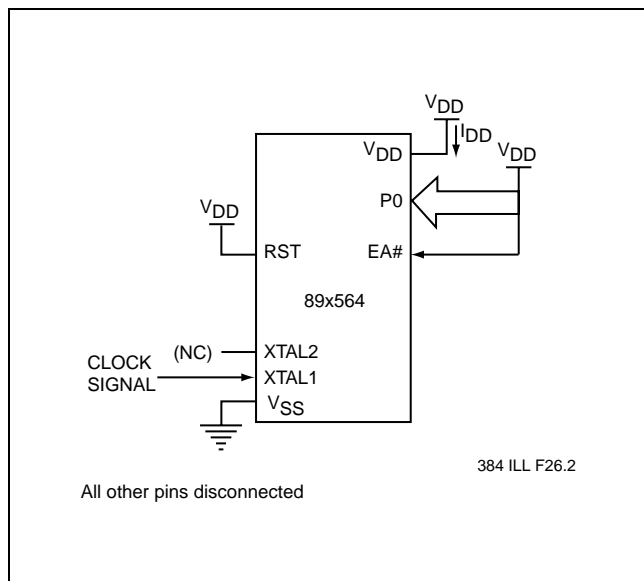

FIGURE 10-1: I_{DD} TEST CONDITION, ACTIVE MODE
- See Figures 10-1, 10-2, 10-3 and 10-4 for test conditions. Minimum V_{DD} for Power Down is 2.0V.